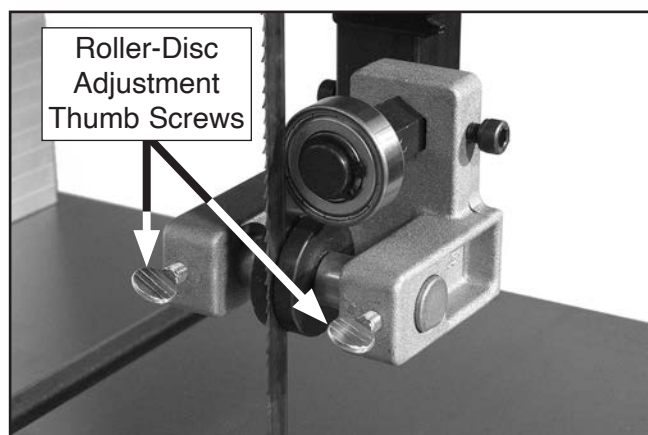

Figure 60. Location of upper roller-disc adjustment thumb screws (guide post cover removed for clarity).
- Loosen both roller-disc adjustment thumb screws (see **Figure 60**), then position roller-discs so they are close to—but not quite touching—sides of blade.